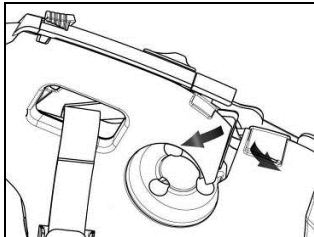

Fig. 11
- Lift up the plastic lining of the cheek padding (Fig. 11).